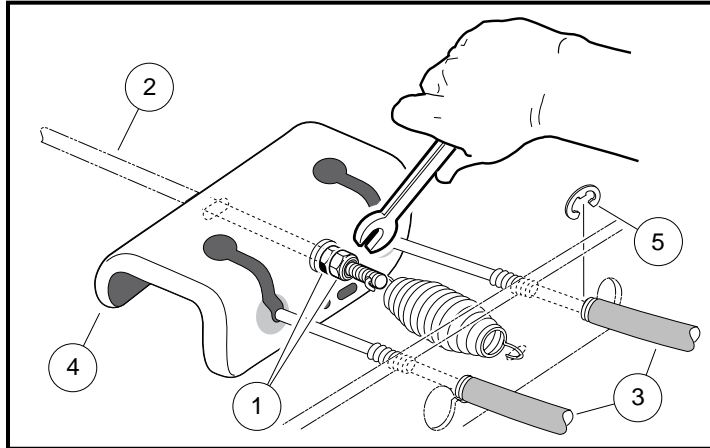

Figure 6-23 Loosen Equalizer Nut
2. Loosen equalizer retaining nuts (1) on equalizer rod (2) to slightly loosen brake cables (3) (**Figure 6-23, Page 6-15**).
1. Place the new cable ends through the access holes in the frame and into the equalizer (4) and secure with new E-clips (5) (**Figure 6-23, Page 6-15**). Route the new cables through the hangers.